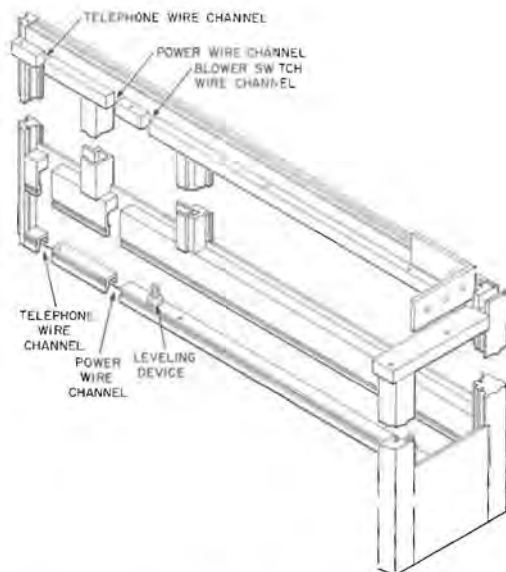

Fig. 11—View of Right Wall Frame Showing Wire Channels
- Drop a weighted fish line from the ceiling area to pull telephone and electric wires separately up through their proper channels (in the right wall frame) to the ceiling area (Fig. 11).